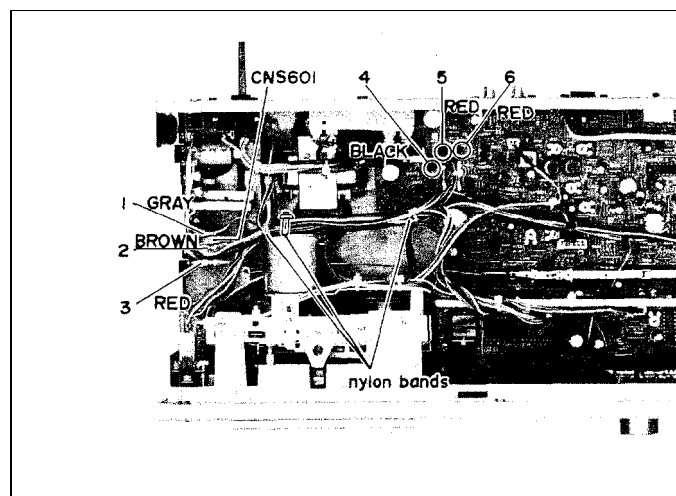

Figure 5-3
7. Remove the three (3) nylon bands holding the leads. (Refer to Figure 5-3.)
8. Pull the three (3) leads (4, 5, 6) — from the secondary of the power transformer — out of the lug terminal on the main P.W.B. (Refer to Figure 5-3.)
9. Pull the three (3) leads (1, 2, 3) and socket (CNS601), all of them in connection with the power supply P.W.B., out of the lug terminal. (Refer to Figure 5-3.) Then the main chassis can be removed from the front panel. You are now allowed to take services on the main P.W.B.